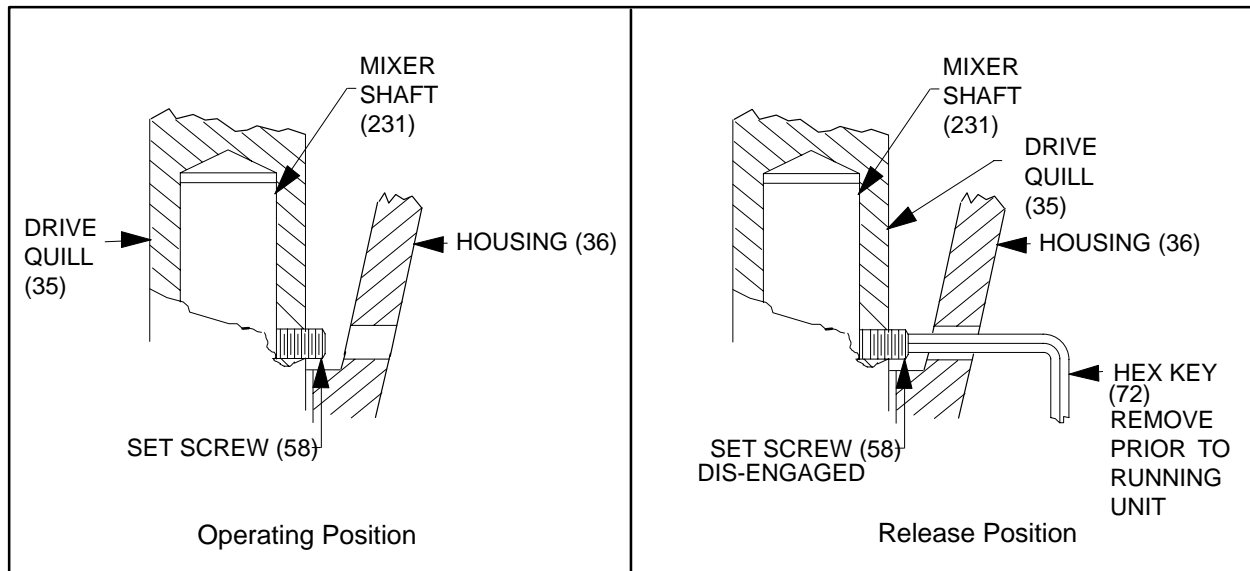

Figure 2 - Shaft Removal
- b . Grasp impeller by hand (or shaft with a strap wrench) and rotate mixer shaft (231) until the drive quill set screw (58) aligns with the access hole in the housing (36). See Caution above.
- c . With hex key (72) loosen set screw (58) and back out two (2) turns. See Figure 2.